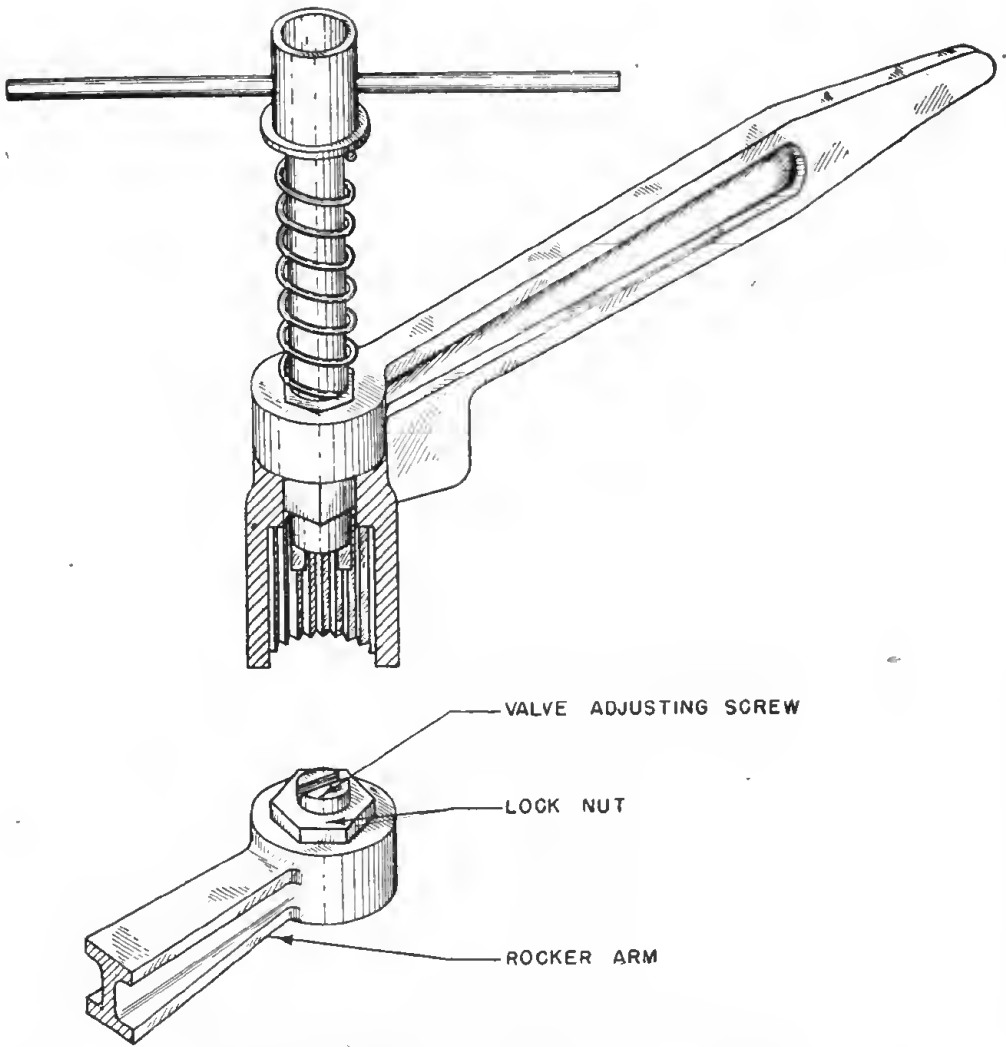

Figure 30. Valve-adjusting screw and nut wrench.
j. VALVE-TAPPET-ADJUSTING SCREW AND NUT WRENCH. (1) This wrench has two handles. One is fastened to a socket which will fit the adjusting-screw locknut. The other is fastened to a shaft which passes through the center of the socket and fits the adjusting screw itself. (See fig. 30.)